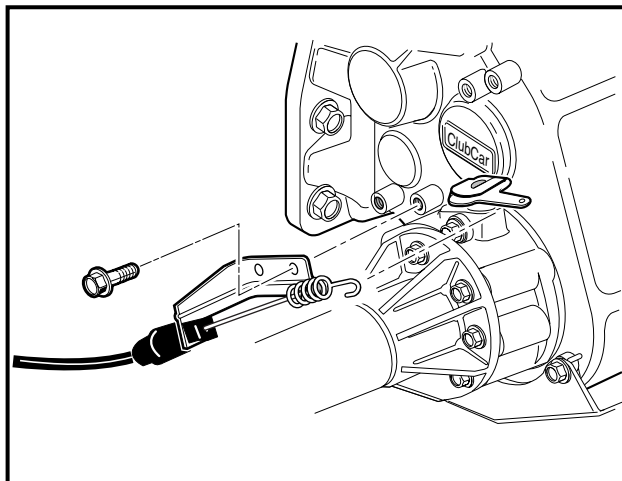

Figure 16-37 Differential Lock Arm and Bracket
21. Remove the two bolts that secure the differential lock cable bracket to the transaxle housing and unhook the cable spring from the differential lock arm (Figure 16-37, Page 16-15).